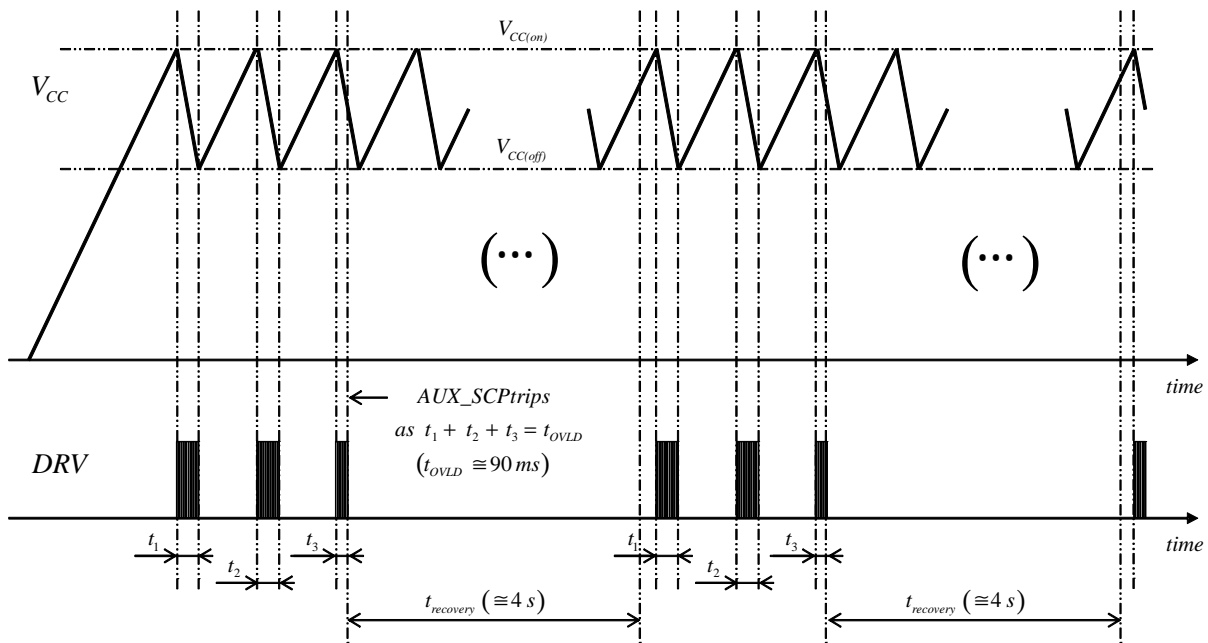

Figure 60. Start-up Sequence in a Load Short-circuit Situation (auto-recovery version)
- If the load is shorted, the circuit will operate in hiccup mode with  $V_{\text{CC}}$  oscillating between  $V_{\text{CC}(\text{off})}$  and  $V_{\text{CC}(\text{on})}$  until the AUX\_SCP protection trips (AUX\_SCP is triggered if the ZCD pin voltage does not exceed 1 V within a 90-ms operation period of time thus indicating a short to ground of the ZCD pin or an excessive load preventing the output voltage from rising). The NCL30185A latches off in this case. With the B version, the AUX\_SCP protection forces the 4-s auto-recovery delay to reduce the operation duty-ratio. Figure 60 illustrates a start-up sequence with the output shorted to ground, in this second case.